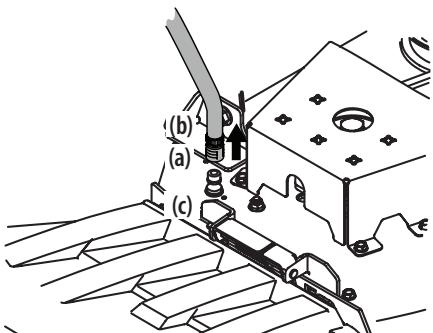

Figure 22
3. Pull back the lock collar (a) of the nozzle adapter (b) and push the nozzle adapter onto the deck wash nozzle (c). Release the lock collar to lock the nozzle adapter on the deck wash nozzle. See Figure 22.